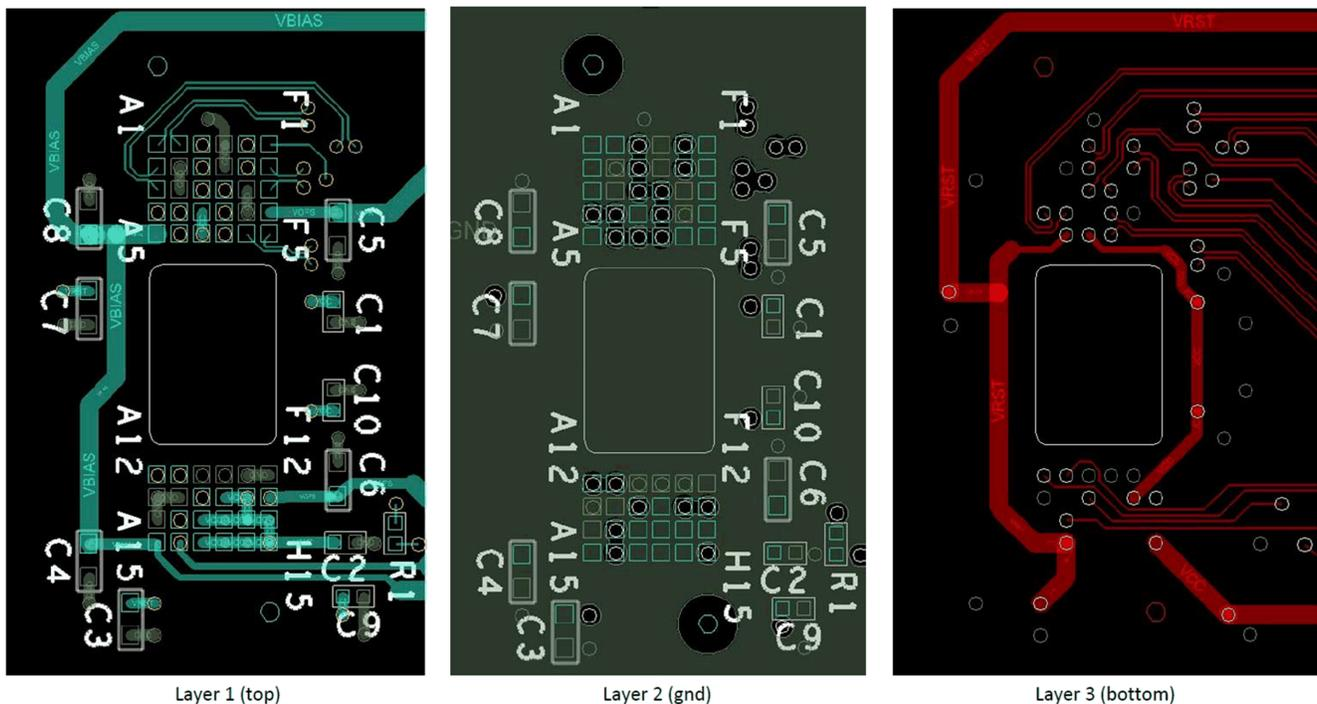

图 8. Power Supply Connections
- Minimize vias, layer changes, and turns for the HS bus signals. Refer to 图 8.
- Minimum of two 100-nF (25 V) capacitors - one close to V_{BIAS} pin. Capacitors C4 and C8 in 图 8.
- Minimum of two 100-nF (25 V) capacitors - one close to each V_{RST} pin. Capacitors C3 and C7 in 图 8.
- Minimum of two 220-nF (25 V) capacitors - one close to each V_{OFS} pin. Capacitors C5 and C6 in 图 8.
- Minimum of four 100-nF (6.3 V) capacitors - two close to each side of the DMD. Capacitors C1, C2, C9 and C10 in 图 8.